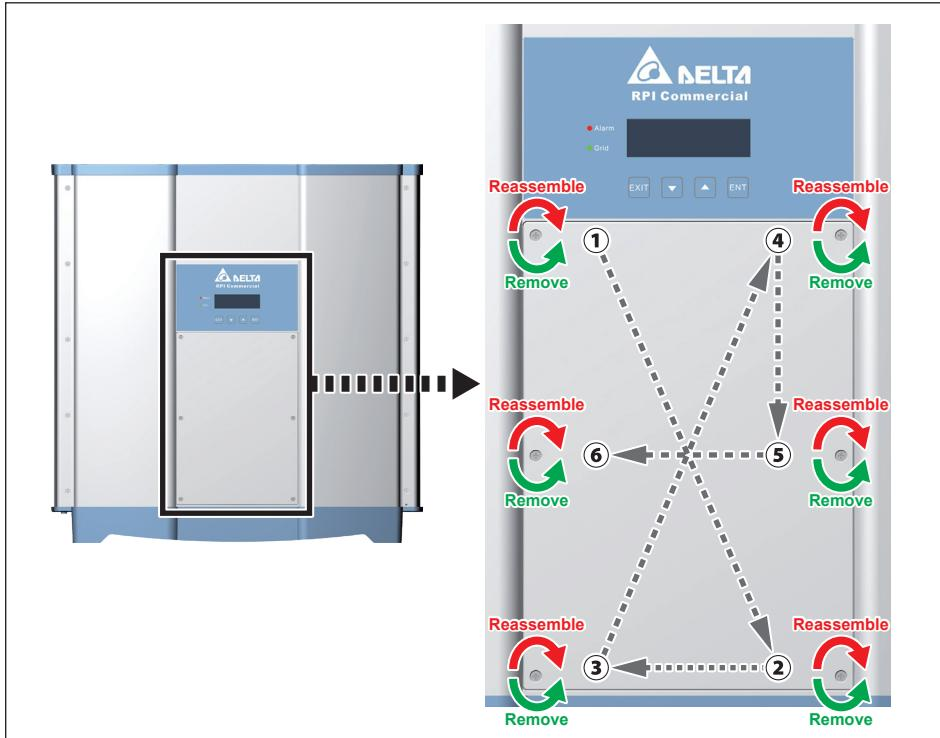

Figure 6-1 : Remove / Reassemble front cover
2. Loosen the 6 screws on the front cover. (*Figure 6-1*)
8. Reassemble the inverter. Please follow the sequence in *Figure 6-1*.
2. Loosen the 6 screws on the front cover. (**Figure 6-1**)